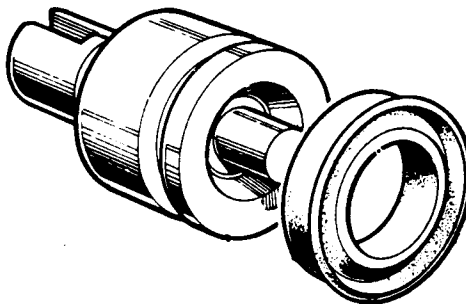

Fig K1.34
- (2) Refer to Fig K1.34. Refit the spring, seal and piston. Fit the piston seal with the lipped side away from the slotted end.
- (3) Fit a new dust cover.
- (4) Replace the brake cylinder (see Sub-sub-section K1.4, Chapter 8).